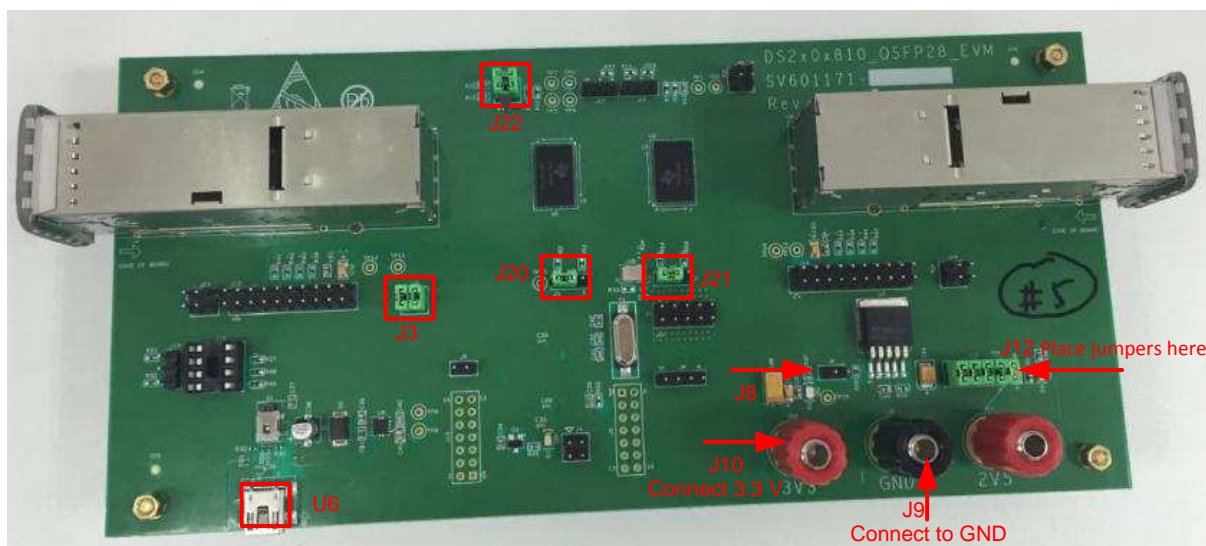

Figure 1. 3.3-V Mode Connections
- 3.3-V use case instructions (see Figure 1):
If the user is following the recommended settings, the board uses a 3.3-V power supply and the jumper settings must appear identical to the setup in Figure 1.